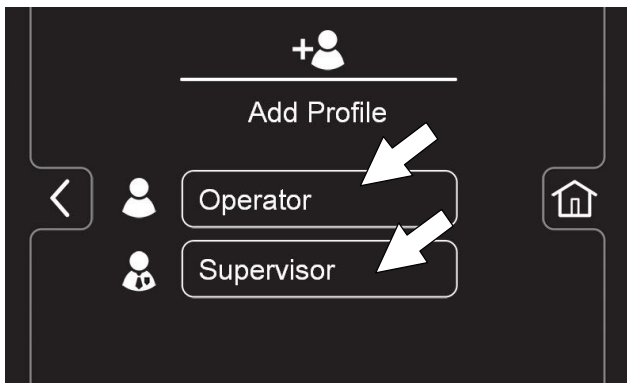

FIG. 170
- Press the Operator button to add an Operator mode profile or press the Supervisor button to add an additional supervisor mode profile (Figure 170).